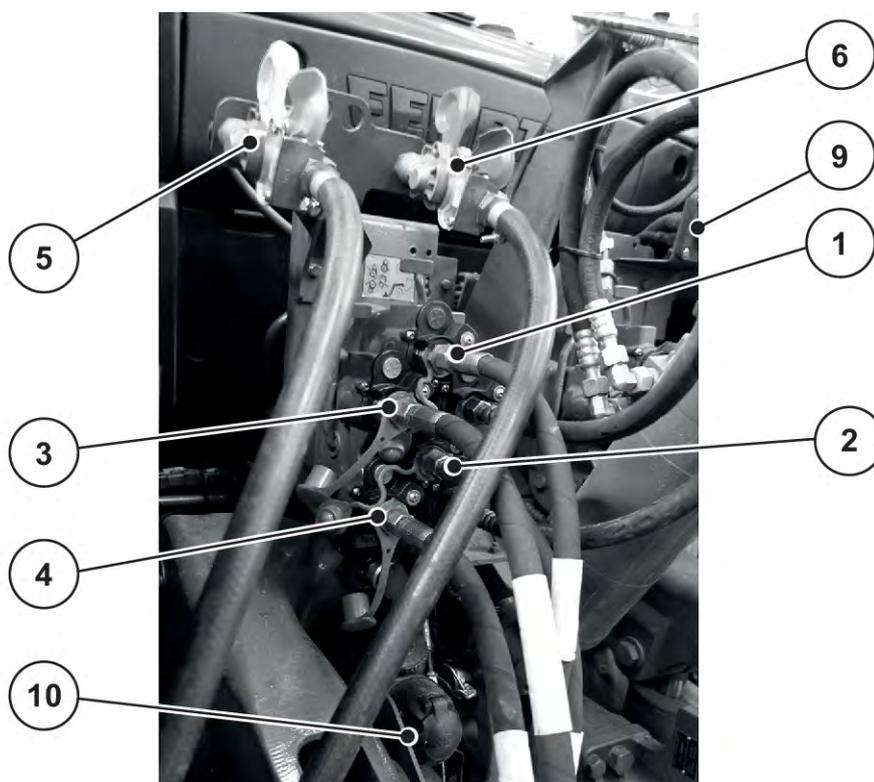

Fig. 23: Order of connecting the machine lines to the tractor
See Fig. 23
- ▶ Observe the connection order: See *Fig. 23 Order of connecting the machine lines to the tractor*